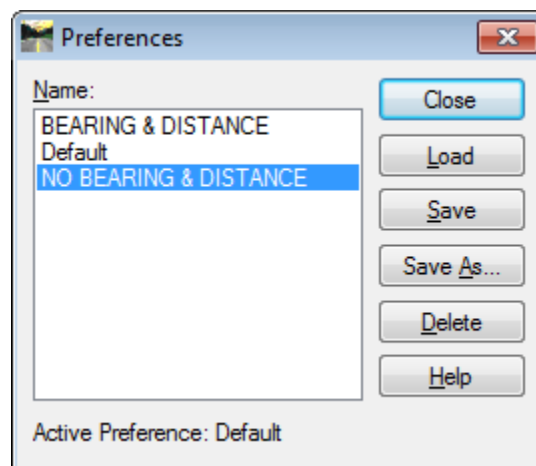

Figure L13-3 Preferences
- The Dialog box Shown in *Figure L13-3* opens.